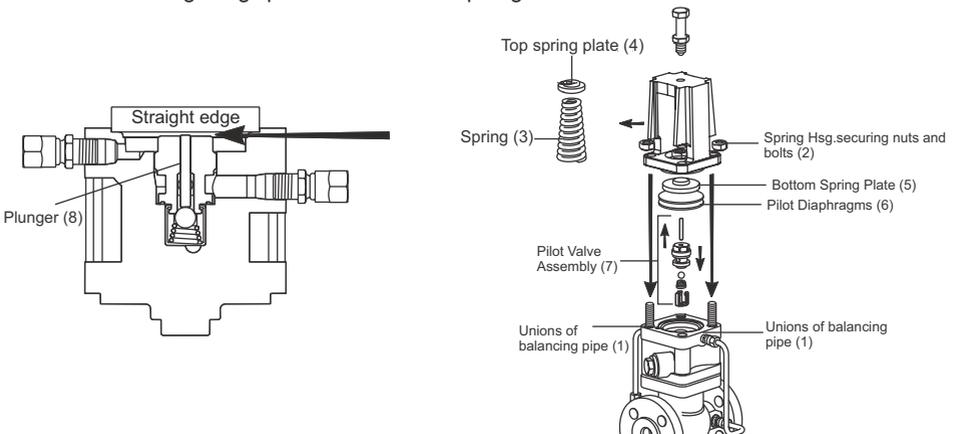

Figure 12: Pilot valve assembly FMPRV41 steam
7.5 Procedure to renew the pilot valve assembly FMPRV41 steam: (Refer to Figure12)